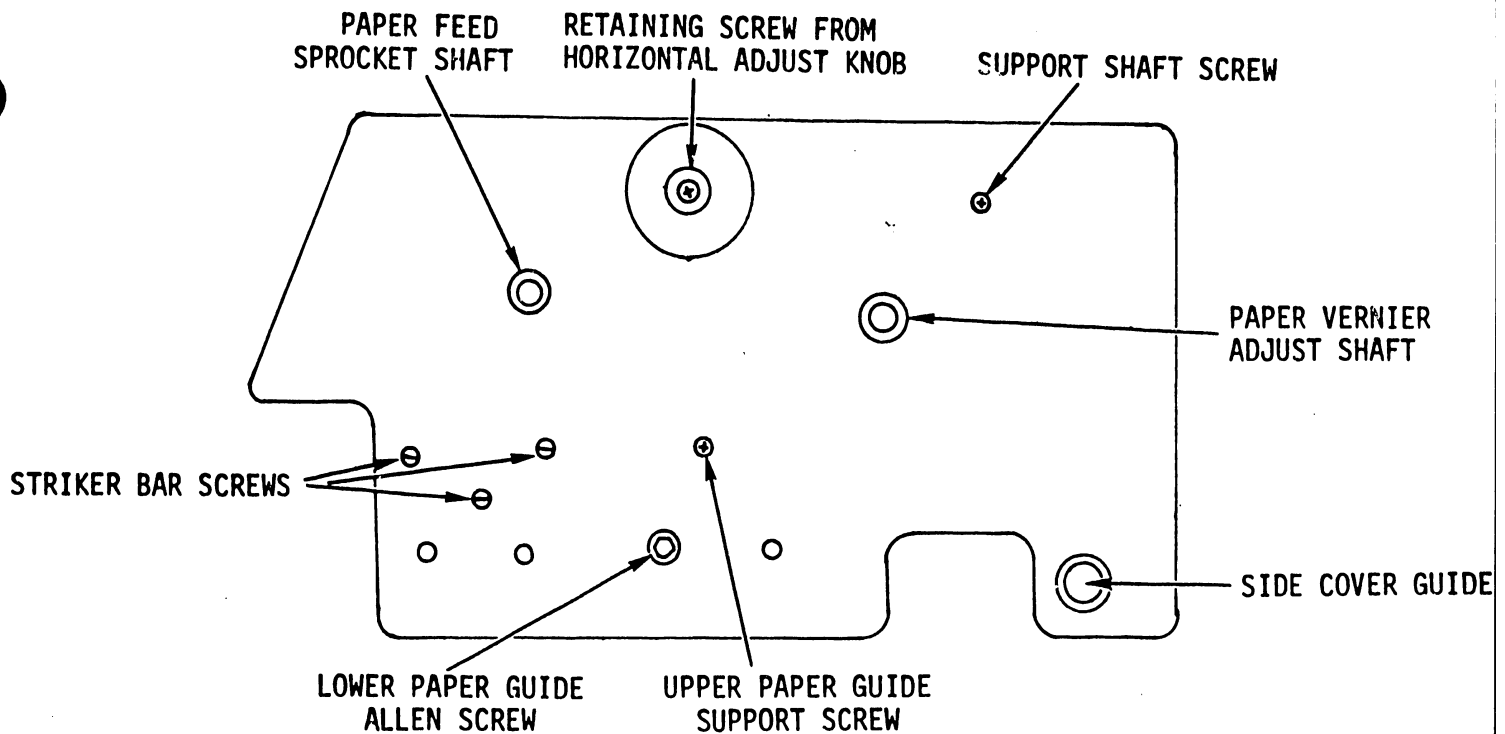

FIGURE 5-18 PAPER FEED SPROCKET REMOVAL AND REPLACEMENT
- 2) Remove manual paper adjust shaft by pulling pin on left side of shaft, Figure 5-18.